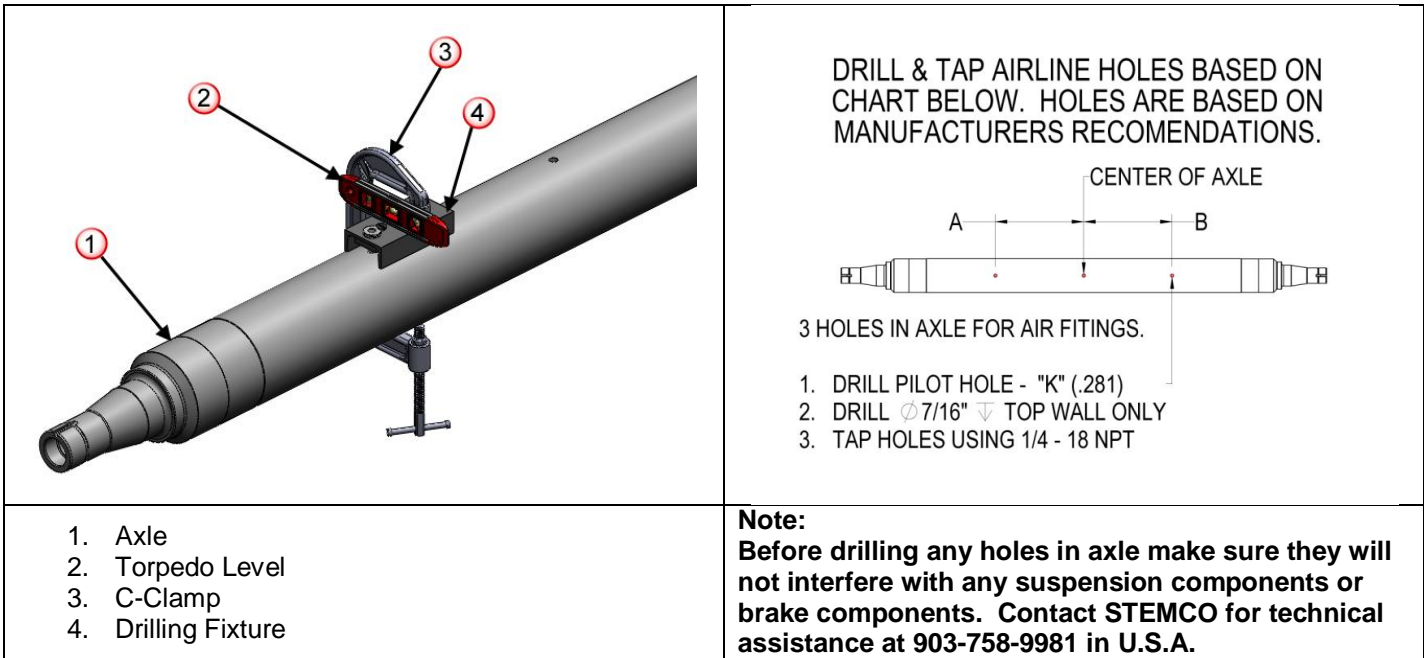

Figure 5
- Use either an angle drill or standard drill where room permits. Use lubricant for drilling and tapping holes. With drill fixture is in place (Figure 5) insert the “K” drill bushing in fixture and drill a pilot hole using a “K’ drill bit. Next insert the 7/16” bushing and drill the hole using a 7/16” drill bit. Next insert the 9/16” bushing in fixture and using a 1/4-18 NPT tap the hole. Repeat procedure on all 3 holes in each trailer axle. When tapping holes leave approximately 6-7 threads sticking out of the axle. STEMCO recommends using an L1 plug gage to measure proper depth. Do not run tap all the way into the axle.